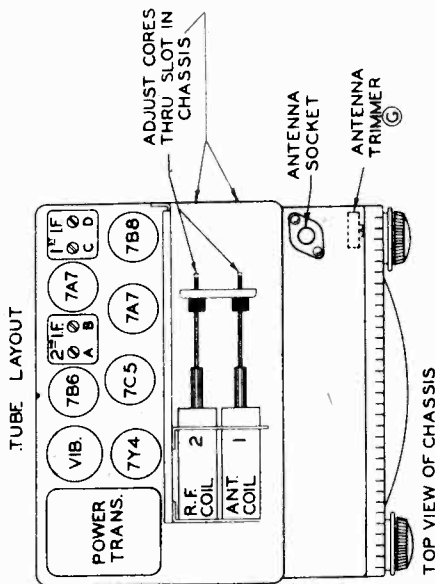

FIG. 7
- 10—Adjust the antenna and R.F. cores (1 and 2—Fig. 7) for maximum output reading.
- 5—Adjust trimmers A-B-C and D (Fig. 7) for maximum output. Repeat the operation to assure accurate alignment.